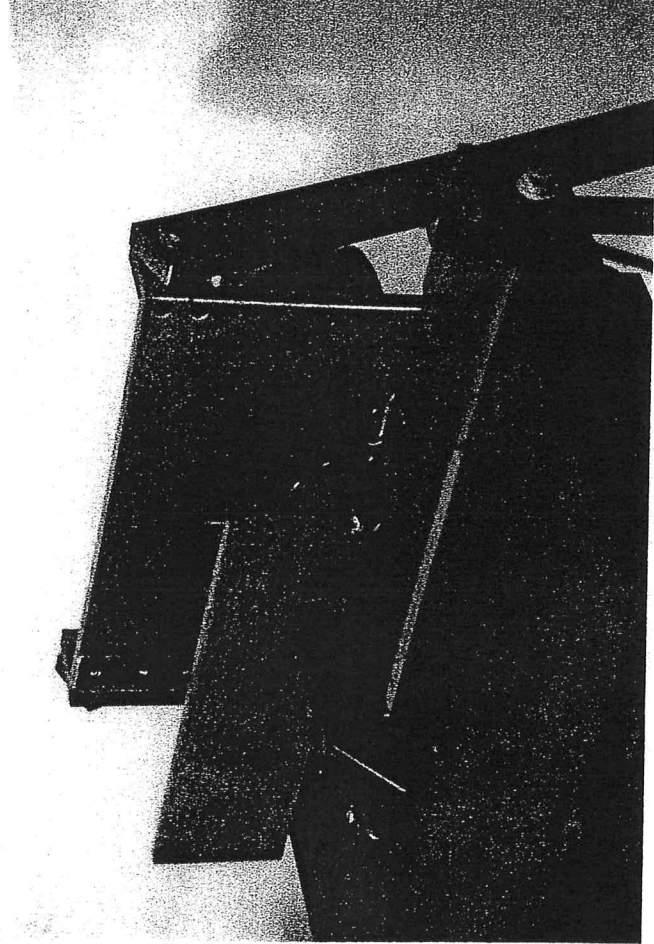

Fig. 30
5. Stand piece A on its side edge and cut into the side 1/2 the diameter of the bit. (fig. 30)